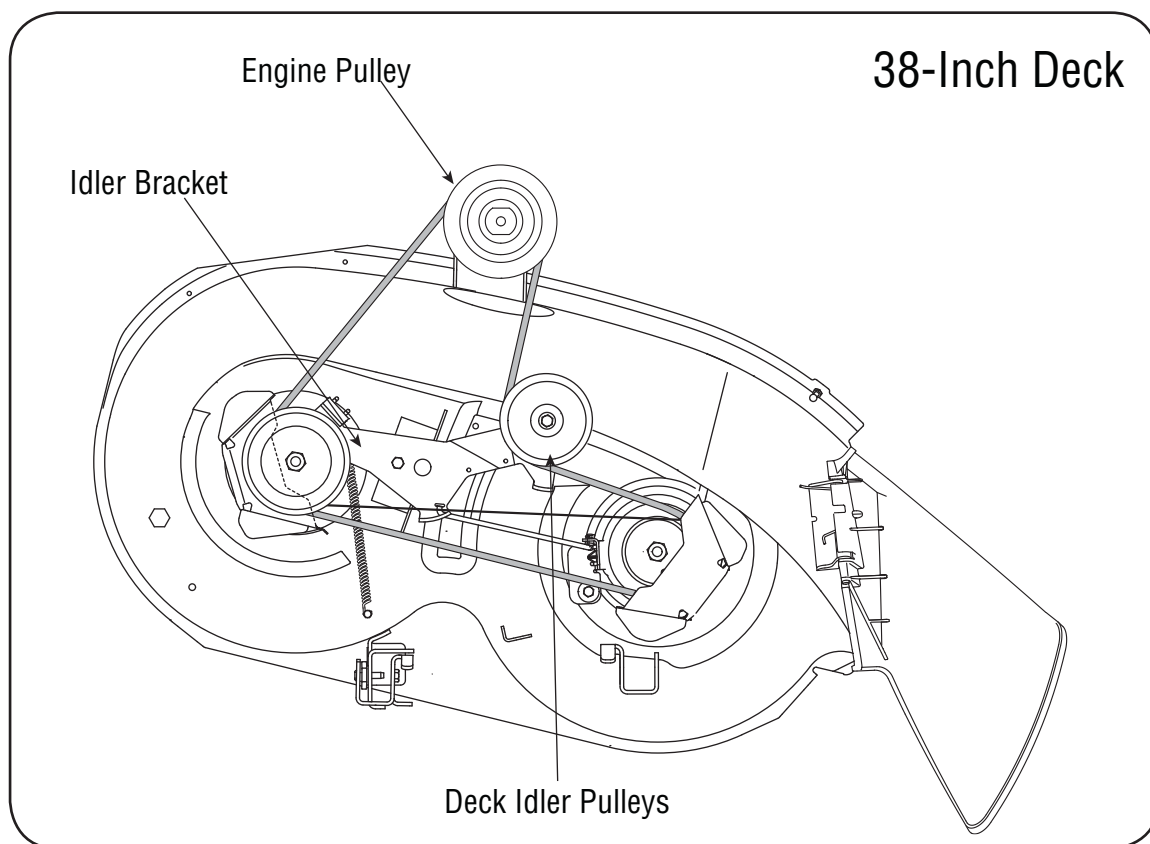

Figure 6-11
6. Route the new belt as shown in and Fig. 6-11, 6-12 or 6-13.